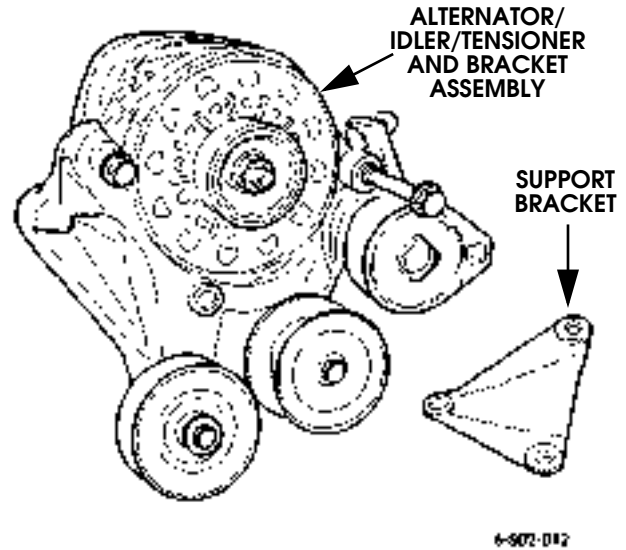

Figure 2-56: Alternator, Pulleys, and Bracket Removal/Installation
26. Disconnect and remove generator, belt tensioner, idler pulley and bracket as assembly (Figure 2-56).